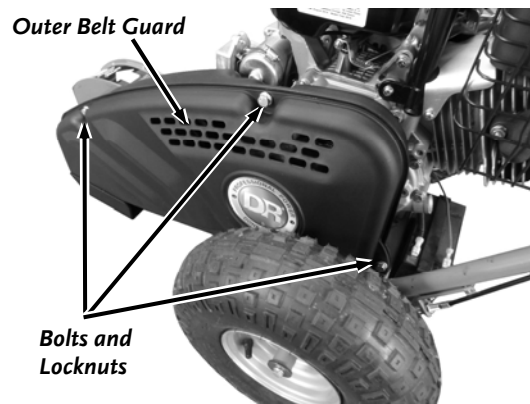

Figure 18
1. Remove the three Bolts and Locknuts from the Belt Guards with two 1/2" Wrenches and remove the outer Belt Guard (**Figure 18**).